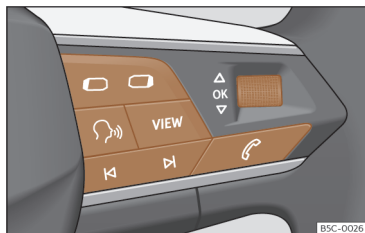

Fig. 10 Right side of multifunction steering wheel: buttons to the menus and informative indications on the instrument panel (depending on the version).
As long as a priority 1 >>> page 23 warning is active, it will not be possible to access any menu. Some warnings can be confirmed and hidden with the button **OK** of the multifunction steering wheel >>> **Fig. 10**.
- If a message or vehicle symbol is displayed, press the button **OK** >>> **Fig. 10**; several times if necessary.